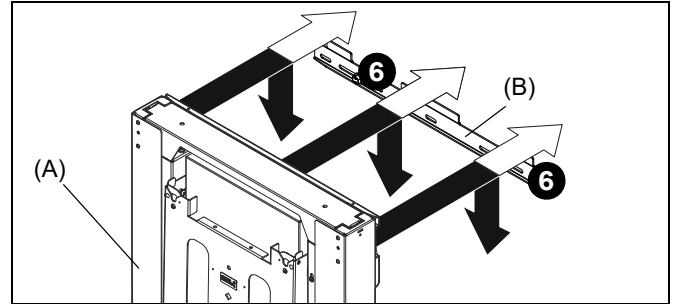

Figure 2
6. Carefully hang XSD1U assembly (A) onto top bracket (B), making sure mount slides behind upper flange on top bracket (B). (See Figure 2)